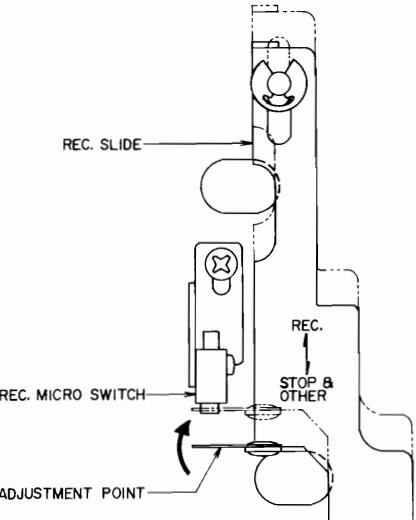

Fig. 6
5. REC. SLIDE ADJUSTMENT (See Fig. 6)
At Stop mode, bend adjustment point (phosphor bronze plate) of Rec. Slide toward arrow. (Fig. 6)